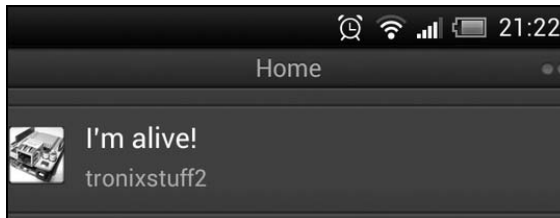

Figure 19-4: Your Arduino's tweet
As with Project 60, insert the IP address at ❶ and modify the MAC address if necessary at ❷. Then insert the Twitter token between the double quotes at ❸. Finally, insert the text that you want to tweet at ❹. Now upload the sketch and connect your hardware to the network. (Don't forget to follow your Arduino's Twitter account with your own account!) After a minute or so, visit your Twitter page and the message should be displayed, as shown in Figure 19-4.